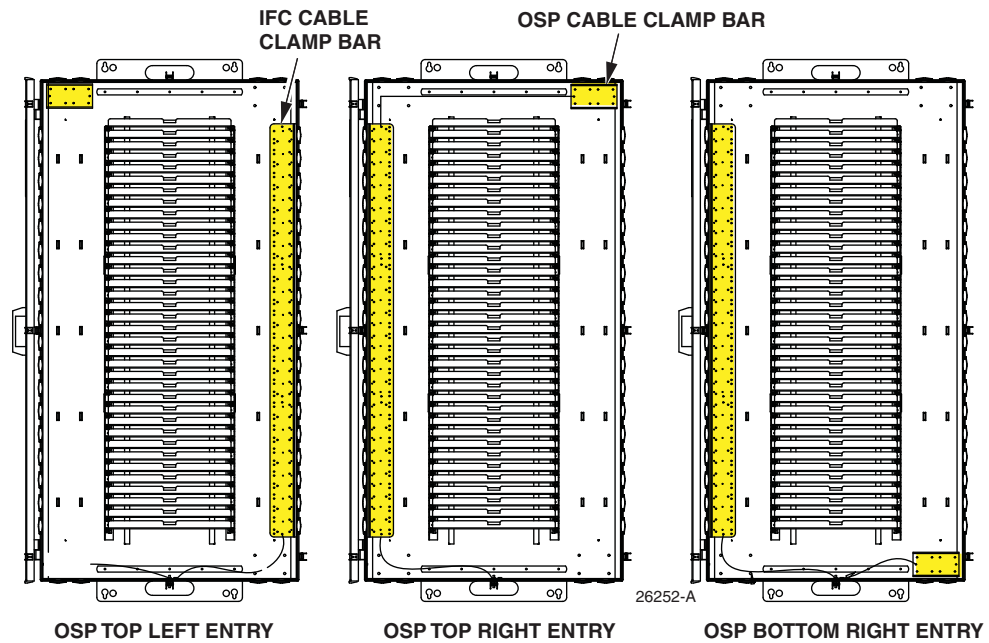

Figure 6. Alternative Cable Clamp Bar Placement
2. If the configuration to be used is other than bottom left OSP cable entry, remove the OSP cable clamp plate and IFC cable clamp plate and re-install them in the location shown in Figure 6 for the three alternative positions.